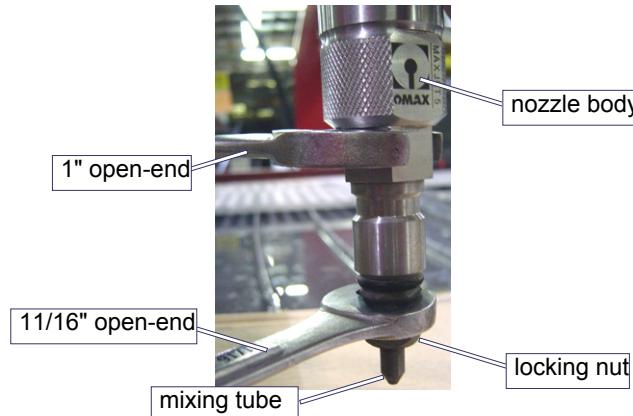

Figure 5-4 Removing the Mixing Tube
- a. Place a **1" open-end wrench** on the **nozzle body** to counteract any torque while loosening the **mixing tube locking nut** (Figure 5-4).